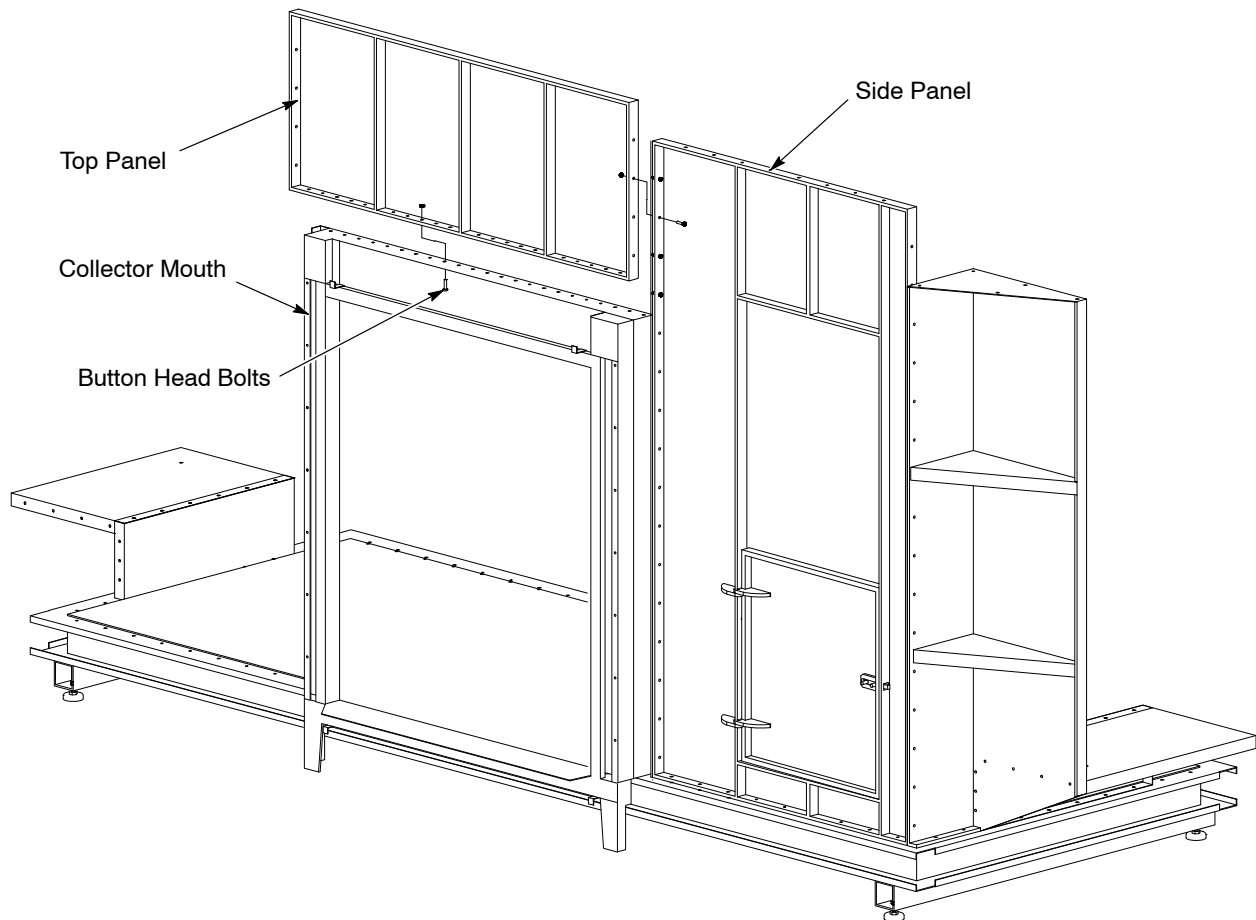

Figure 5 Securing Top Panels to Collector Mouth and Side Panels
7. See Figure 5. Align the mouth top panel flange holes with the holes in the side panel and collector mouth flanges.